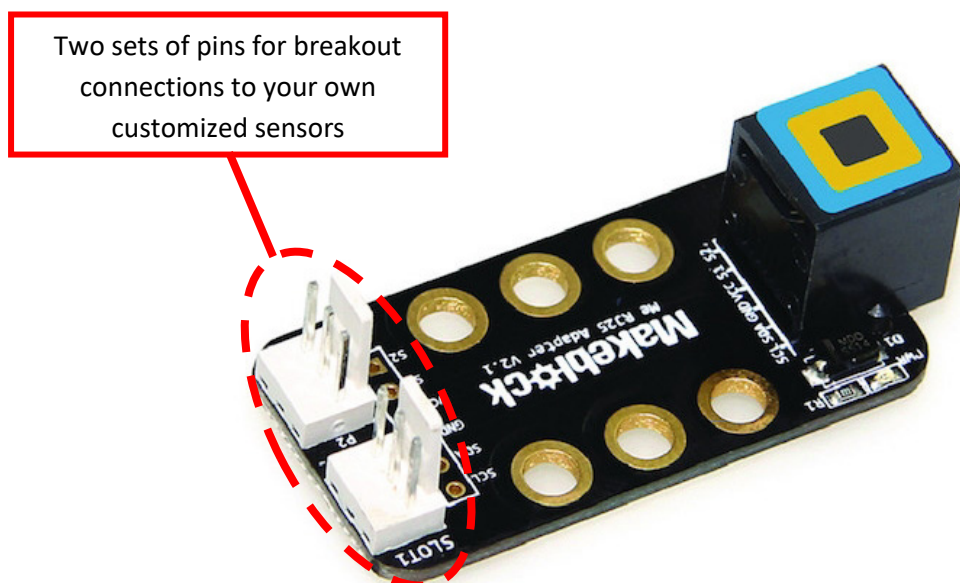
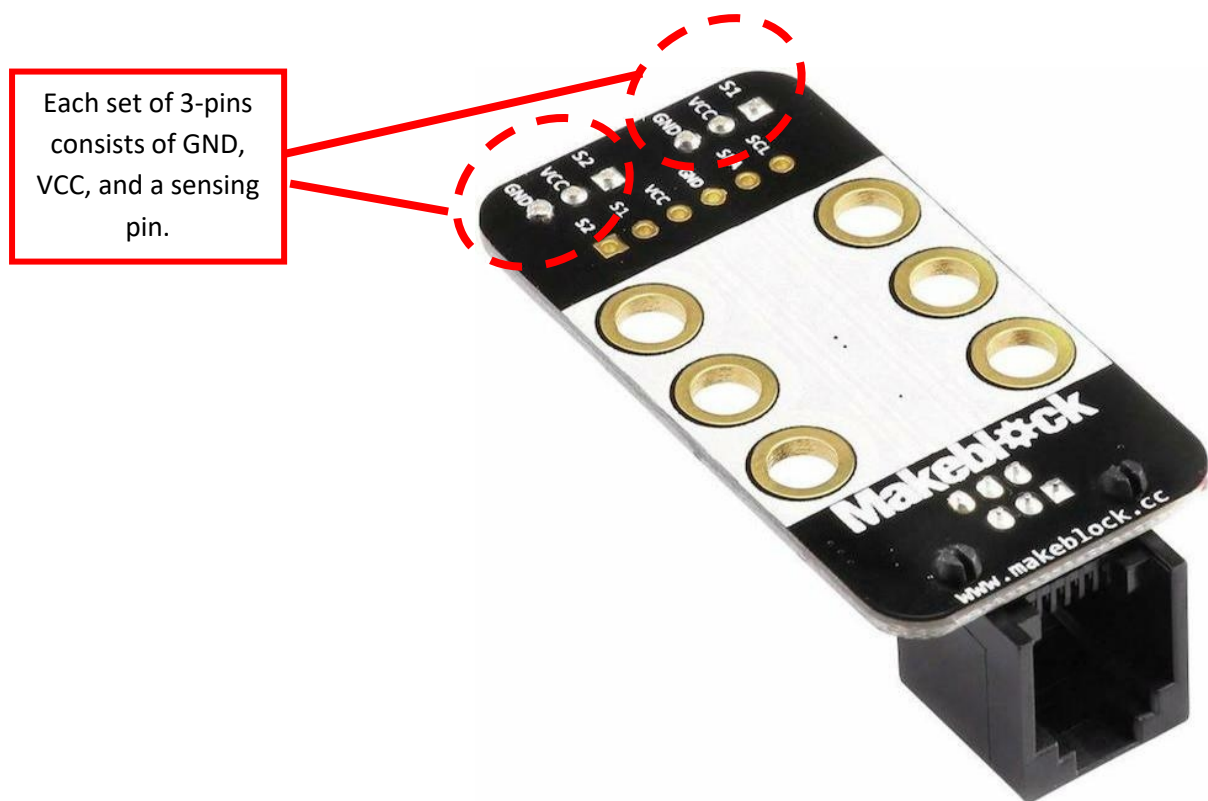

Figure 2: Top view of the RJ25 adapter
Figure 3: Bottom view of the RJ25 adapter
5. The RJ25 adapter provided to you (see Figure 2) has two sets of pins allowing breakout connections to two customized sensors. You will be using it to connect to two sets of self-built infrared proximity sensors that allow your mBot to sense its distances from the left and right maze walls. As seen in Figure 3, each of the two sets of 3-pins consists of a GND (i.e., ground) pin, a VCC (i.e., 5 V) pin, and a sensing pin (S1 or S2). The two sensing pins, S1 and S2, are mapped to pins 5 and 6 inside the RJ25 port. Refer to the mCore schematic diagram